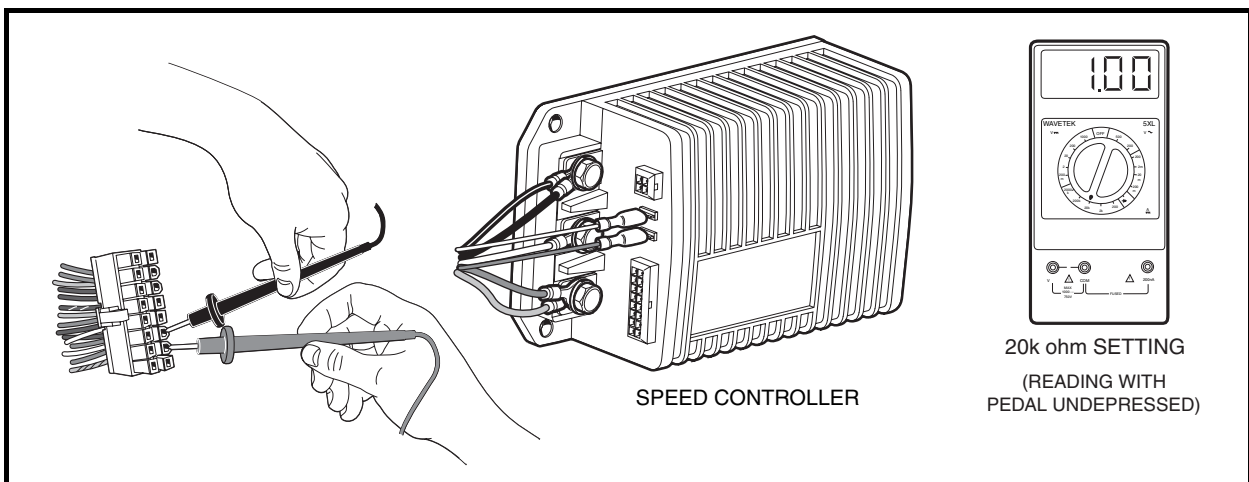

Figure 21-5 Pins 1, 2, and 3 Test
4. Set a multimeter to 20k ohms. Insert the red (+) probe of the multimeter into pin 2 (yellow wire) of the 16-pin connector. **See following CAUTION.** Insert the black (–) probe into pin 3 (purple/white wire) of the 16-pin connector (**Figure 21-5, Page 21-19**).